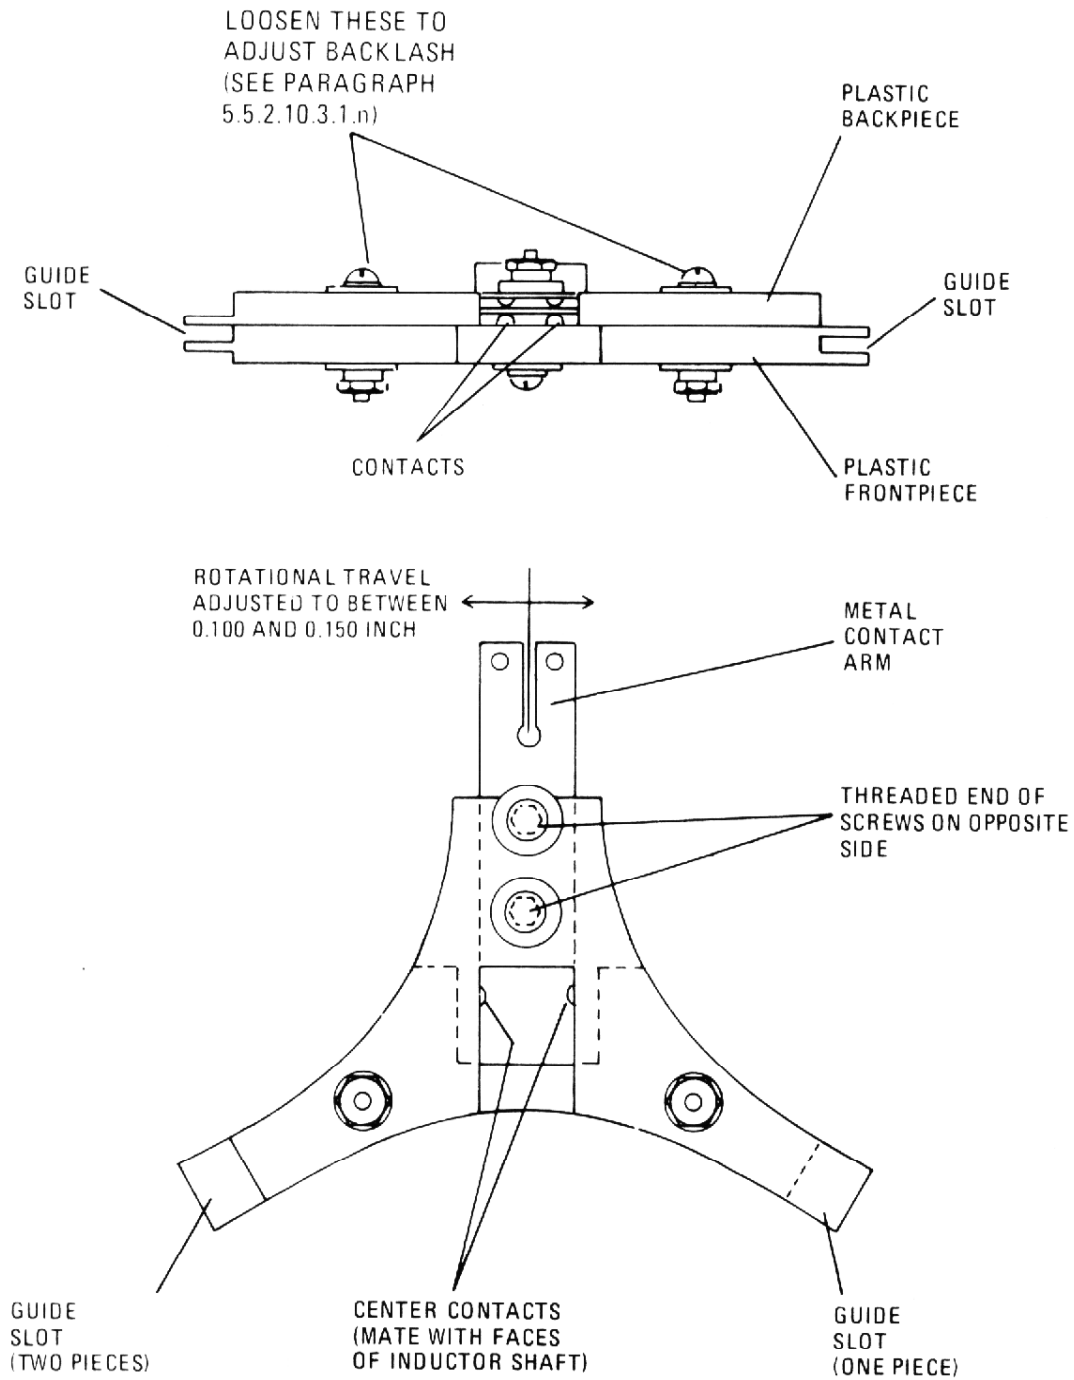

Figure 5-4. Rotor Assembly 1A2MP3 Detail View
- 1. Loosen, do not remove, backlash adjustment screws (see figure 5-4).
- 2. Move plastic front piece or back piece towards or away from inductor shaft to obtain 0.100 to 0.150 inch total rotational travel of the metal contact on the inductor coil turns (from one extreme to the other - see figure 5-4).
- s. Start rotor assembly onto inductor coil. The plastic arm with guide slot made of one piece (figure 5-4) should be guided on first, followed by the guide slot made of two pieces, then the metal contact arm. Rotate rotor assembly until contacts align with previously marked spot on the inductor coil, step b.